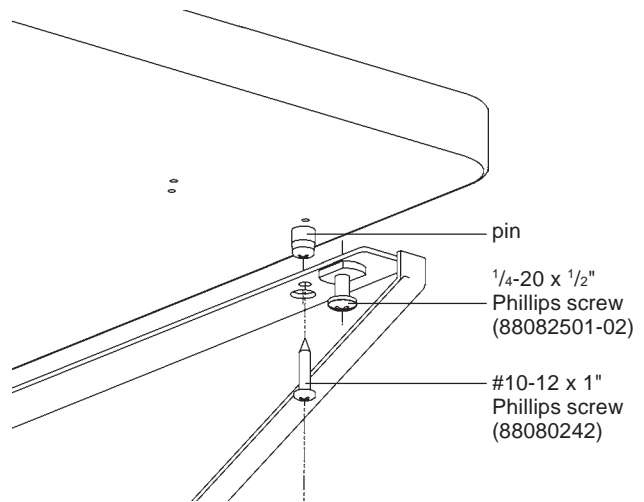

Figure 2
5. For Cantilever Supports only, level the surface by adjusting the 1/4-20 x 1/2" Phillips screw that is installed near the front of each Cantilever Support. (Figure 2)
6. At the front of each support, install a #10-12 x 1" Phillips screw through the support and into the surface to anchor the surface. (Figure 2)